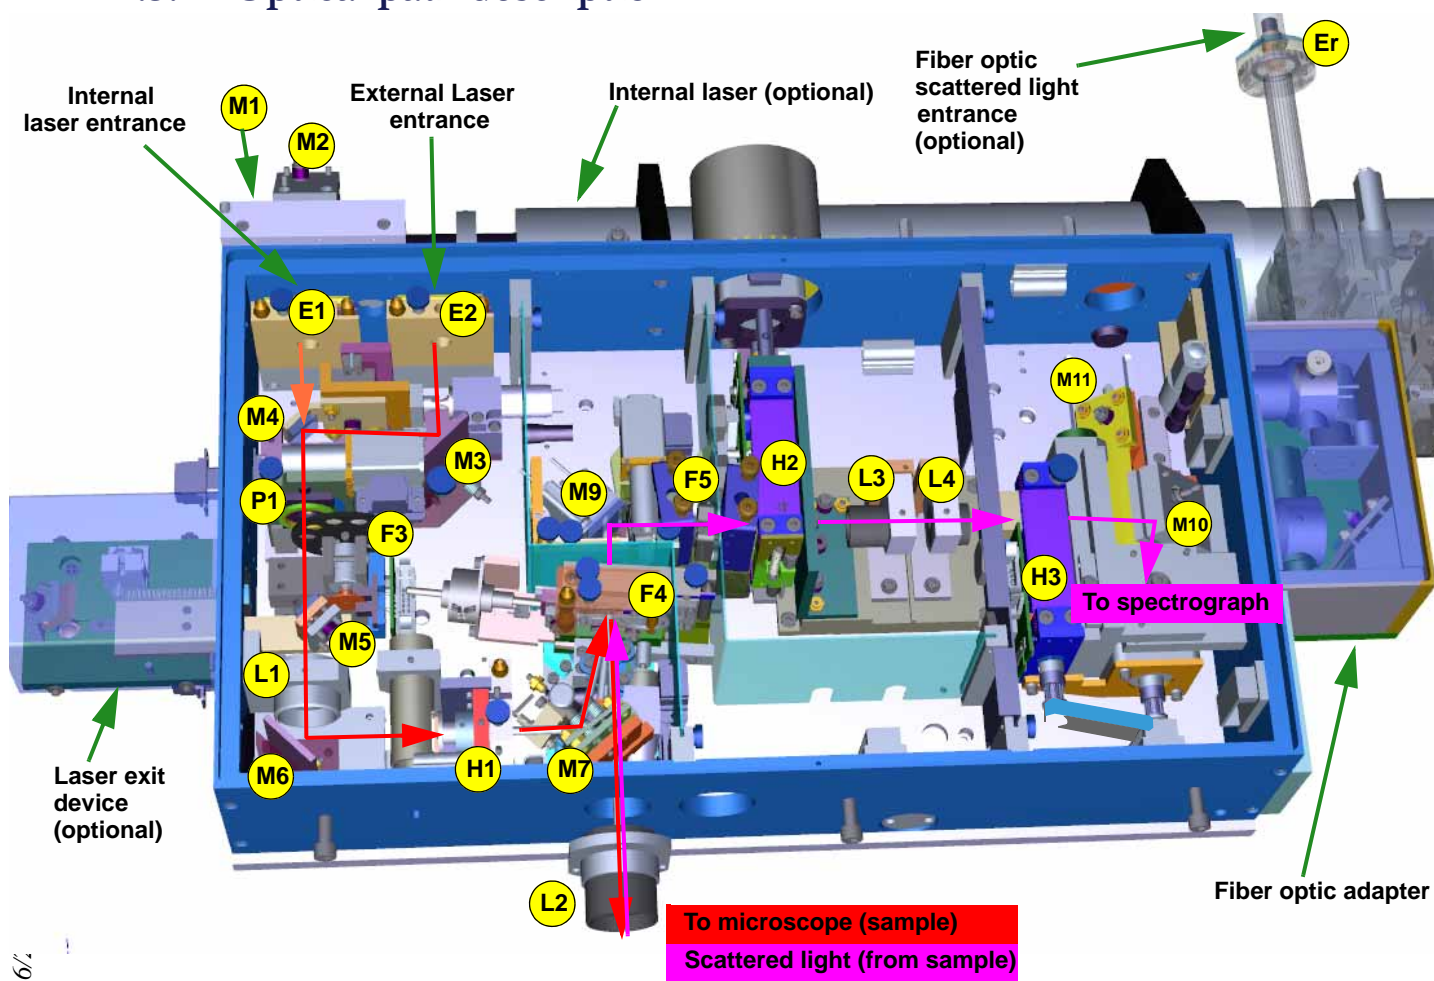

Figure 1-3 LabRAM HR Evolution Optical path - VISIBLE
Figure 1-1 and figure 1-3 shows the main optical parts of a standard LabRAM HR Evolution when the cover is removed.
- For Visible/NIR version, the lenses L3 and L4 are placed on the path when the Visible range is used. The 2-position motorized module switches automatically to the NIR range when required. In this case three mirrors M12, M13 and M14 are mounted and pre-aligned for optimal NIR transmission (see figure 1-3). This LabRAM version uses silver coated mirrors.
- For Visible/NIR/UV version, a first set of L3 and L4 lenses are mounted on a pre-aligned 2-position motorized module for a Visible/NIR use. The second optical set is composed of three Al (Aluminium) coated mirror for UV transmission (see figure 1-3).